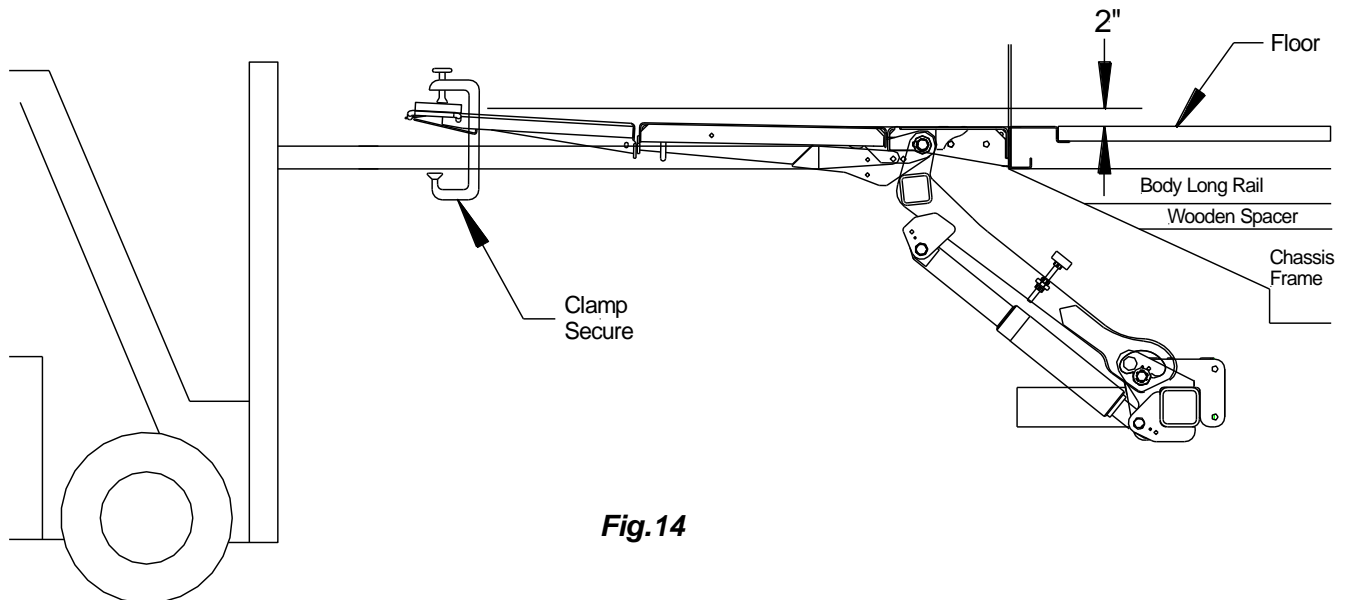

Fig.14
1. Hoist Platform: Unfold platform manually and clamp forklift forks, overhead crane or equivalent to platform. Make sure the platform is secured. Always maintain the mount tube centered to the vehicles body. Make sure the tip of the platform is pitched up 2" and the platform is centered to the bed extension, **Fig 14**. **Important: Verify the retaining bolts or welds, on both sides, are in place securing the mount frame and swing fixture prior to beginning installation, Fig 15.**